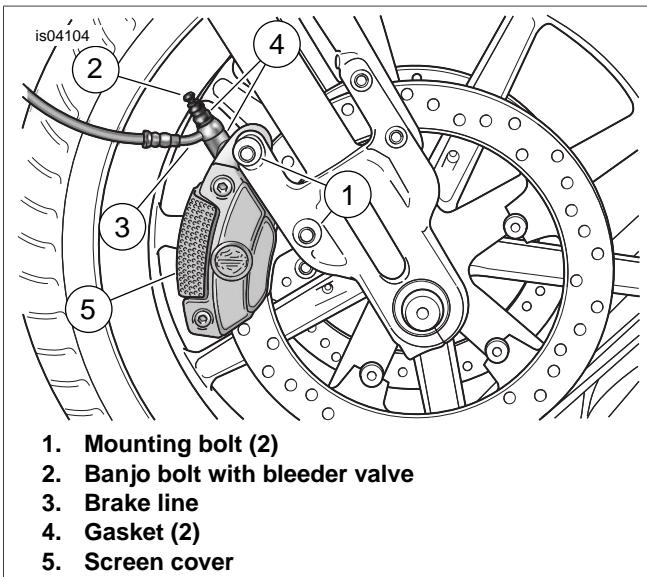

Figure 1. Remove Existing Caliper
1. See Figure 1. Refer to FRONT BRAKE CALIPERS: REMOVAL in the Service Manual, and follow the instructions to:
- a. remove the banjo bolt with bleeder valve (2) and both gaskets (4), and
- b. detach the front brake line (3) from the caliper.
- c. Discard the gaskets. **For this installation, the banjo bolt (2) can also be discarded.**
- d. Remove the caliper mounting bolts (1). Lift the brake caliper assembly upward to remove it from the brake disc.
3. See Figure 1. Obtain two of the brake caliper mounting bolts (1), removed earlier. Loosely install both bolts through the front fork and into the chrome caliper.
7. See Figure 1. Install the **new** screen cover (5) onto the caliper.